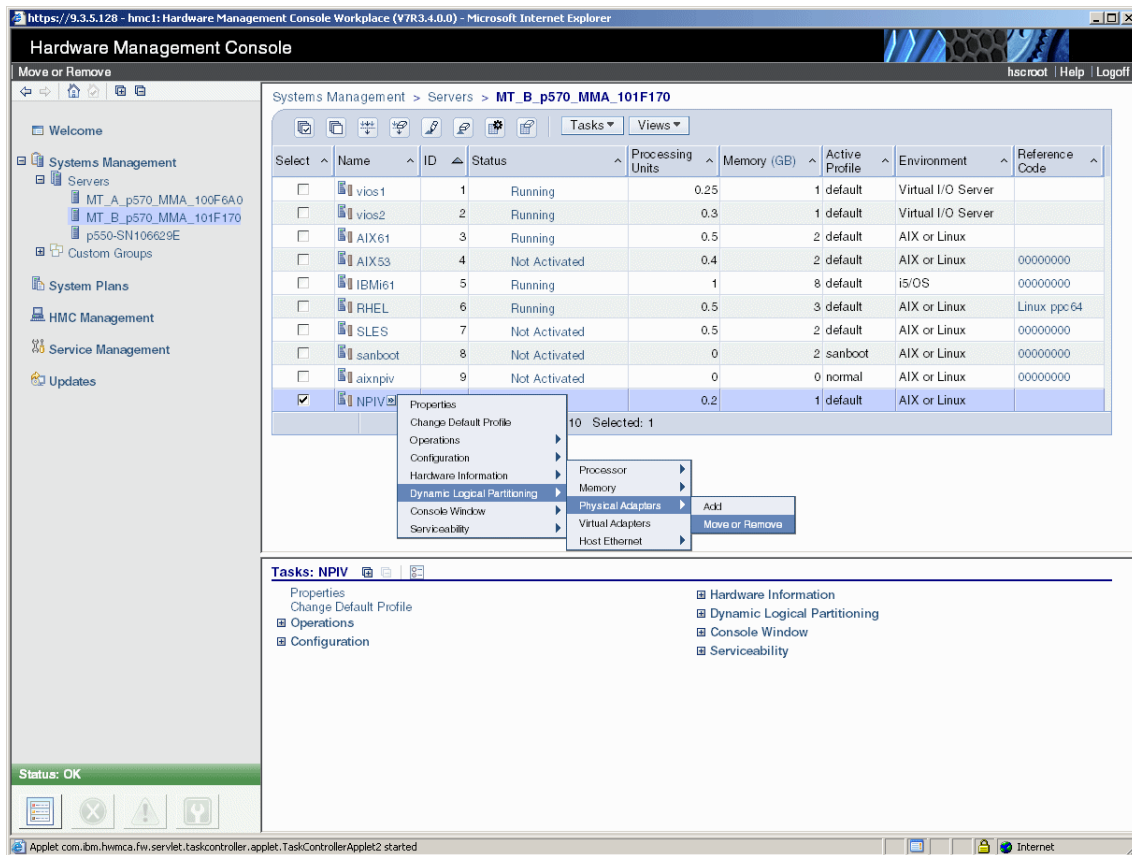

Figure 2-50 Remove a physical Fibre Channel adapter
25. On the HMC, select partition NPIV and then **Tasks** → **Dynamic Logical Partitioning** → **Physical Adapters** → **Move or Remove** as shown in Figure 2-50.